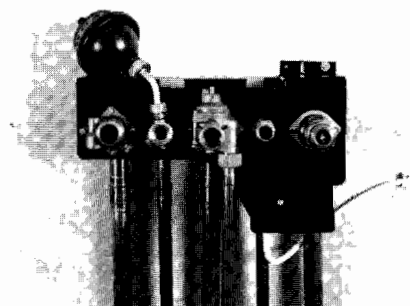

Fig. 10
6.6.4 Alternatively, the expansion vessel can be relocated out of sight above the connecting plate, provided that there is no vertical pipework behind the boiler. In order to do this, the positions of the blanking plug and nipple on the cold inlet connection must be reversed – resulting in the nipple being at the top. Refer to Fig. 10.